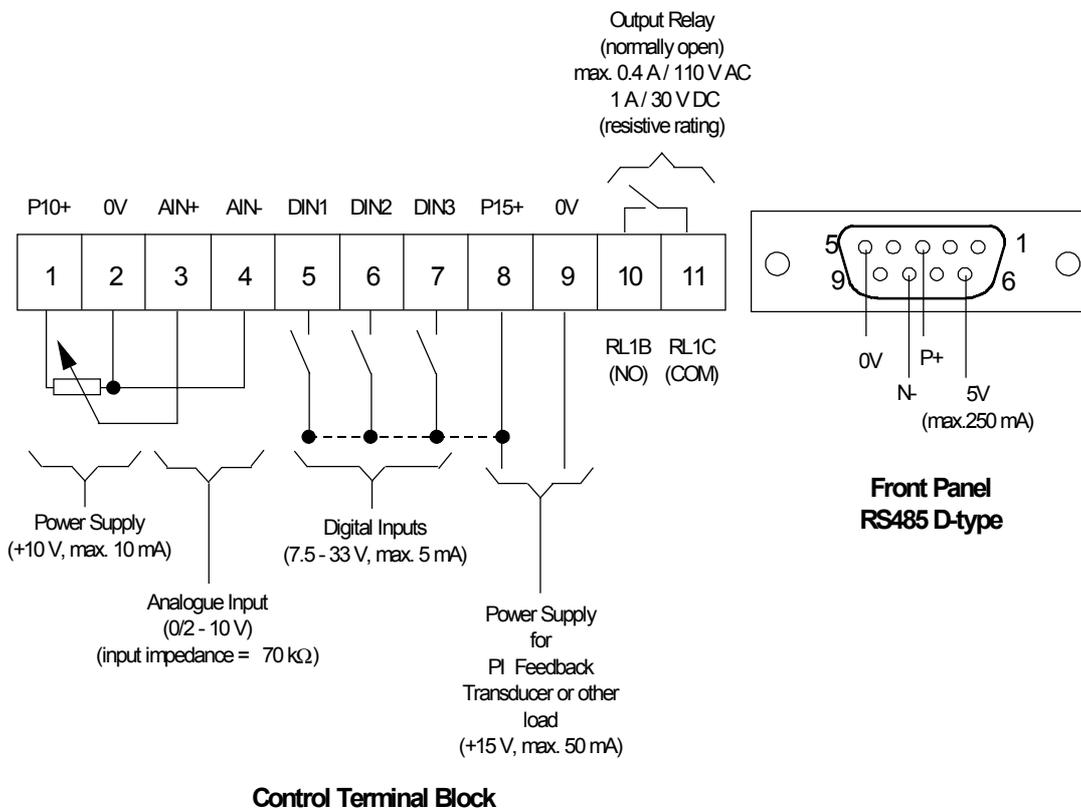
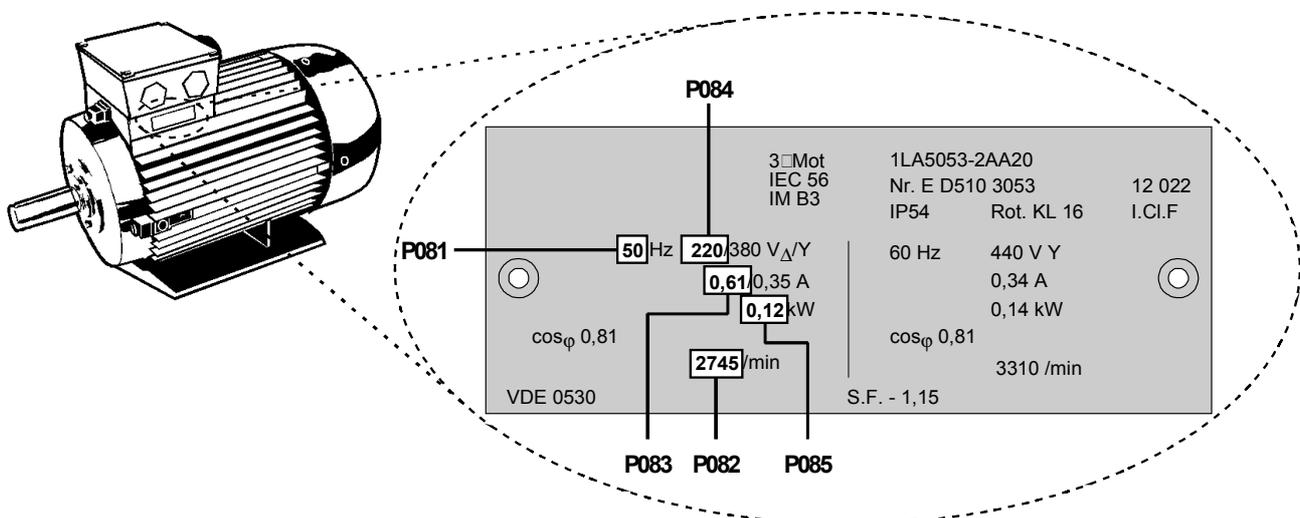

Figure 2.2.4: Control Connections
Figure 3.2.1: Typical Motor Rating Plate Example
15. Connect the control leads as shown in Figures 2.2.4 and 2.2.6, Section 2.2.4 and 2.2.6.
- (1) The inverter does not have a main power switch and is live when the mains supply is connected. It waits, with the output disabled, until the RUN button is pressed or for the presence of a digital ON signal at terminal 5 (rotate right) or terminal 6 (rotate left) - see parameters P051 - P053.
- (2) If output frequency is selected to be displayed (P001 = 0), the corresponding setpoint is displayed approximately every 1.5 seconds while the inverter is stopped.
- (3) The inverter is programmed at the factory for standard applications on Siemens four-pole standard motors. When using other motors it is necessary to enter the specifications from the motor's rating plate into parameters P081 to P085 (see Figure 3.2.1). **Note: Access to these parameters is not possible unless P009 has been set to 002 or 003.**
- (1) Connect control terminal 5 to terminal 8 via a simple on/off switch. This sets up the motor for clockwise rotation (default).
- (2) Apply mains power to the inverter. Set parameter P009 to 002 or 003 to enable all parameters to be adjusted.
- (3) Check that parameter P006 is set to 000 to specify digital setpoint.
- (4) Set parameter P007 to 000 to specify digital input (i.e. DIN1 (terminal 5) in this case) and disable the front panel controls.
- (5) Set parameter P005 to the desired frequency setpoint.
- (6) Set parameters P081 to P085 in accordance with the rating plate on the motor (see Figure 3.2.1).
- (7) Set the external on/off switch to ON. The inverter will now drive the motor at the frequency set by P005.
- (2) Connect a 4.7 k $\Omega$  potentiometer to the control terminals as shown in Figure 2.2.4 or connect pin 2 (0V) to pin 4 and a 0 - 10 V signal between pin 2 (0V) and pin 3 (AIN+).
- (3) Apply mains power to the inverter. Set parameter P009 to 002 or 003 to enable all parameters to be adjusted.
- (4) Set parameter P006 to 001 to specify analogue setpoint.
- (5) Set parameter P007 to 000 to specify digital input (i.e. DIN1 (terminal 5) in this case) and disable the front panel controls.
- (6) Set parameters P021 and P022 to specify the minimum and maximum output frequency settings.
- (7) Set parameters P081 to P085 in accordance with the rating plate on the motor (see Figure 3.2.1).
- (8) Set the external on/off switch to ON. Turn the potentiometer (or adjust the analogue control voltage) until the desired frequency is displayed on the inverter.